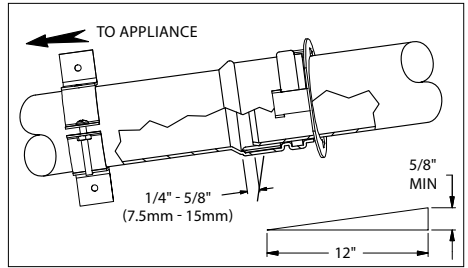

Figure 7
slope for drainage. (*Fig.7*)
- The slope of the vent pipe must be at least 3° (5/8" per ft, 50mm per meter) back to the appliance. (**Fig.7**)
- The venting system shall be securely supported using suitable hangers. Duravent hardware is recommended; field supplied support hardware suitable to the AHJ is acceptable, hardware must not deform or damage the vent. (**Fig. 7 and 8**) Make sure the load of the vent system is not supported by the appliance.
PP Pipe sections must be disengaged 1/4"-5/8" per joint (to allow for expansion) and sloped 3°(5/8"per ft) back to the appliance per Fig.7 for proper condensate flow.